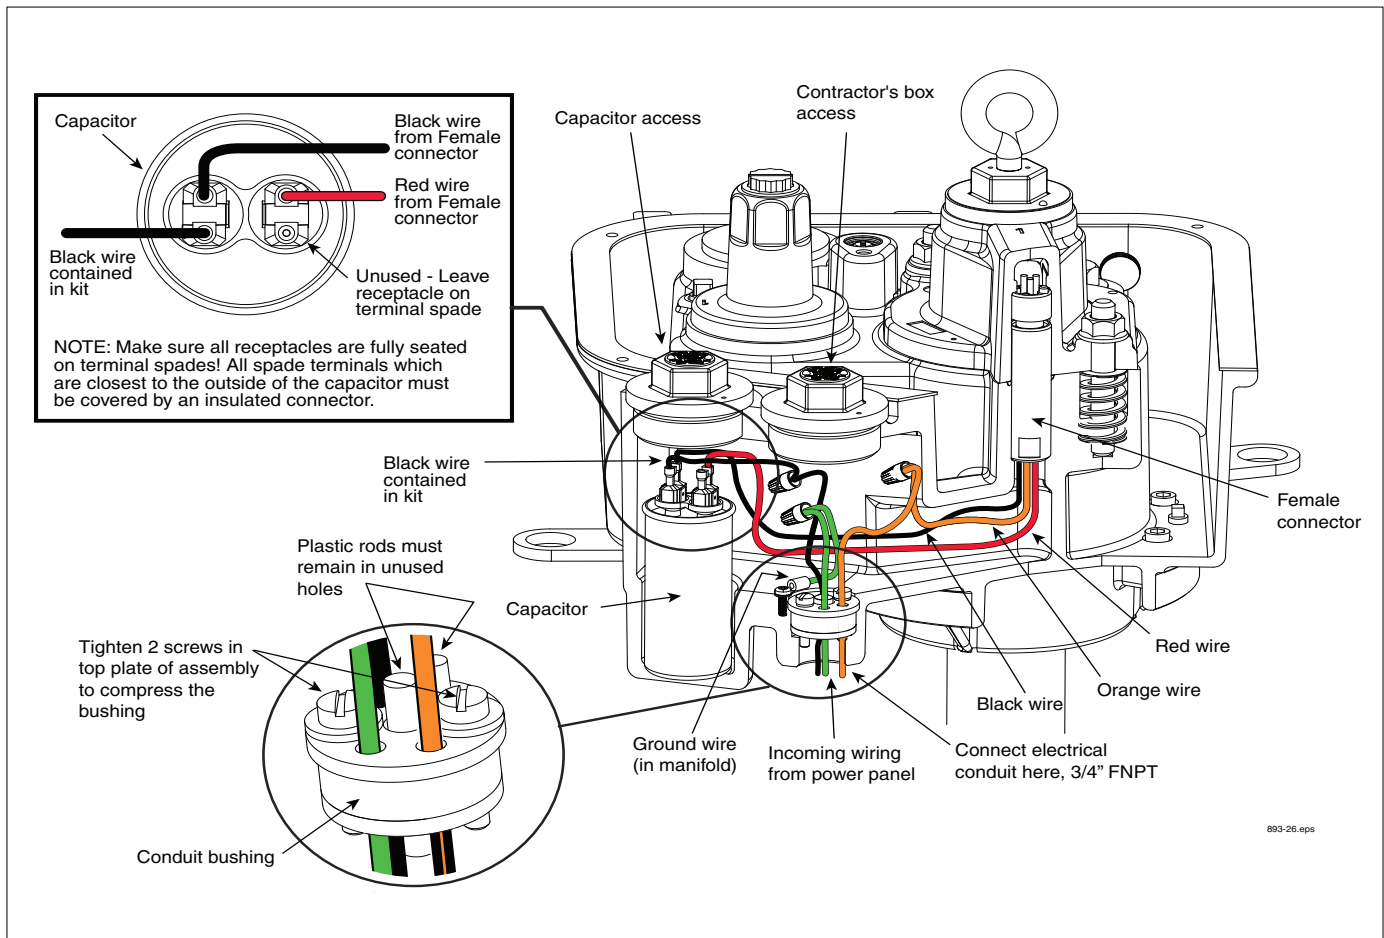
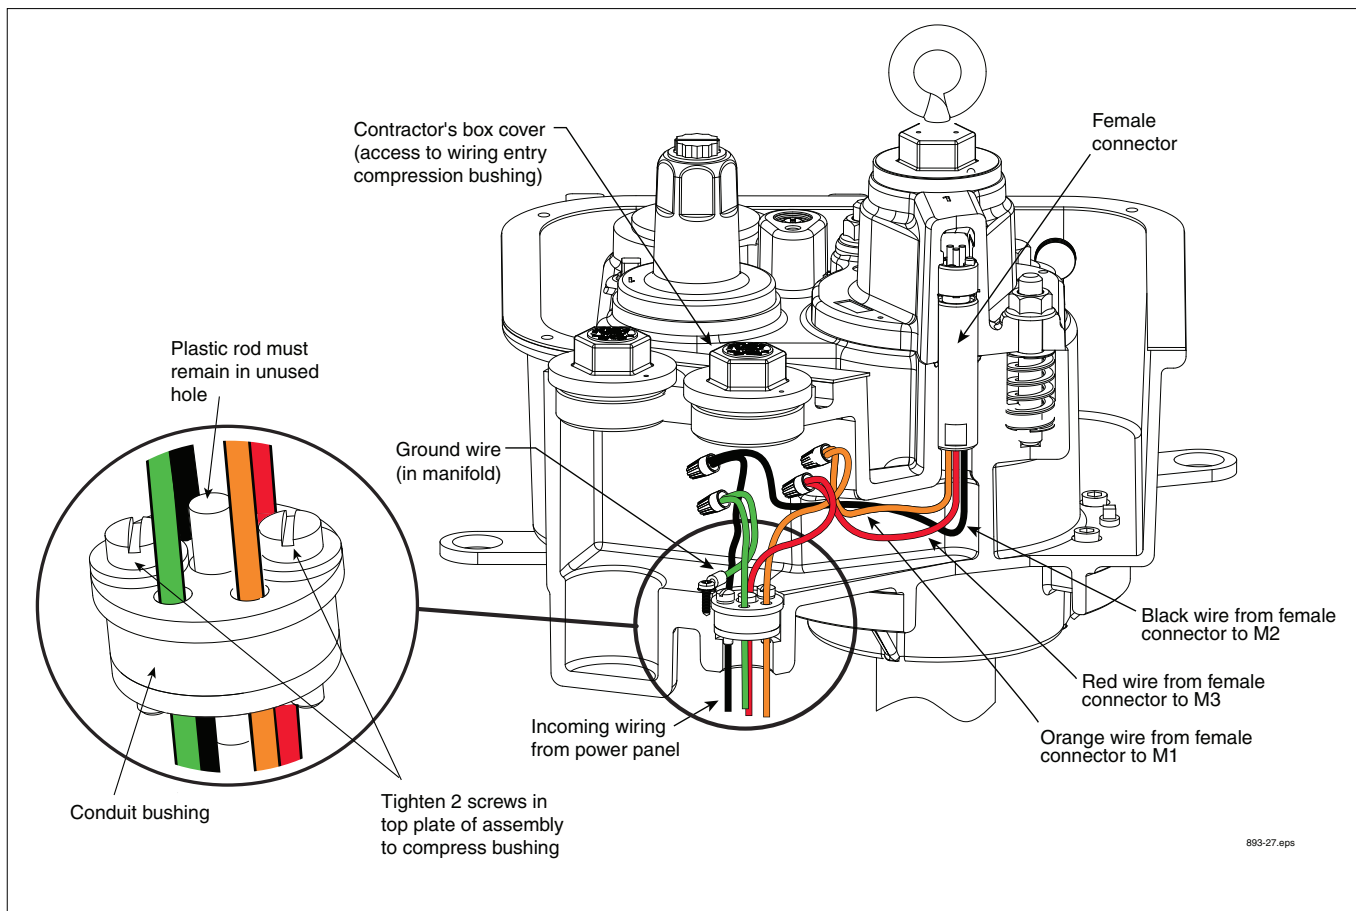

Figure 13. Power Wiring Enters Through Compression Bushing - Single Phase Example Shown
Figure 21. Power Wiring Enters Through Compression Bushing - Three Phase Example Shown
1. Connect electrical conduit approved fittings to the power wiring entry at the base of the manifold's contractors box (see cutaway example in Figure 13 for single phase power wiring or Figure 21 for three phase power wiring).
2. Loosen the two screws in the conduit bushing just enough so you can remove the bushing from its socket in the bottom of the manifold's contractor box (see Figure 13) - continue lifting the bushing up until it is accessible. Notice that the top plate of the bushing assembly (facing into the manifold) has a larger diameter than the bottom plate, and that there are two open holes and three holes with plastic rod inserts. The plastic inserts seal the bushing and must remain in any unused hole. For example, bringing three wires from the power panel, use the two empty holes and remove and discard one of the two smaller diameter plastic inserts for the third wire. Push each of the incoming power wires through the empty holes in the bushing assembly. Slide the bushing assembly down over the power wires until it seats in its socket in the base of the manifold's contractor box and then tighten the two screws in bushing assembly securely to compress the bushing and seal the wiring entry.
cstp/fig21.eps
See Figure 21 for Steps 1 through 5.
1. Remove and set aside the cover of the contractor's box over the wiring entry conduit bushing (refer to Figure 21).